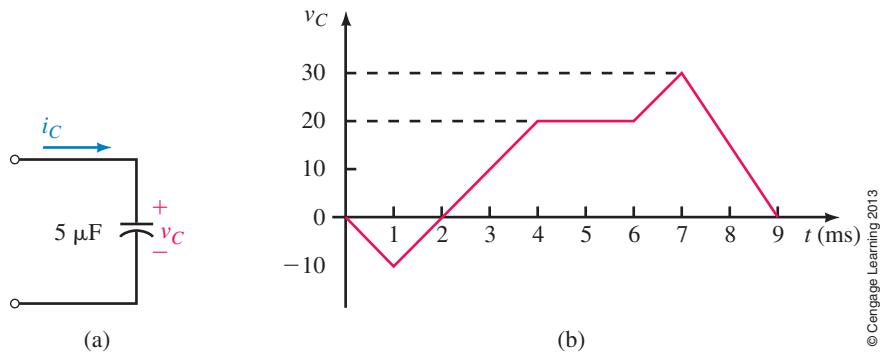

FIGURE 10-42
43. The voltage across the capacitor of Figure 10-42(a) is shown in (b). Sketch current i_C scaled with numerical values.
47. For Figure 10-42, determine the capacitor's energy at each of the following times: $t = 0, 1 \text{ ms}, 4 \text{ ms}, 5 \text{ ms}, 7 \text{ ms}, \text{ and } 9 \text{ ms}$.